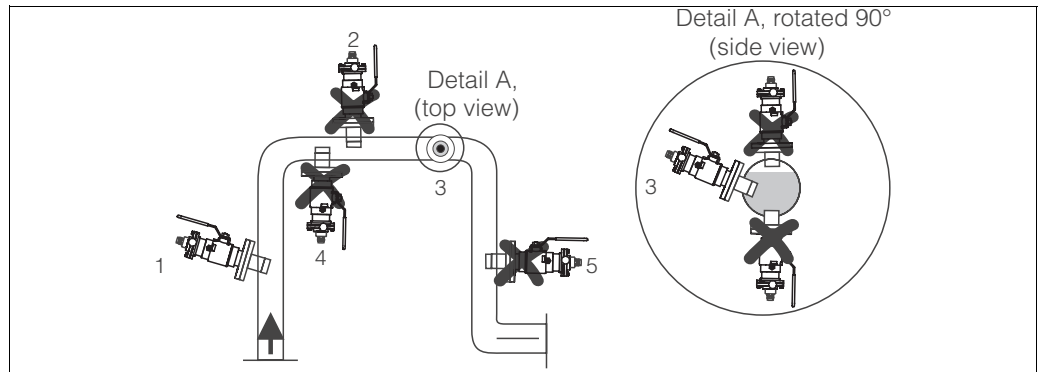

Fig. 7: Permissible and impermissible sensor installation positions
- Do not install the assembly at places, where air cushions or foam bubbles can be formed or where suspended particles can settle on the sensor optics (→ Fig. 7).